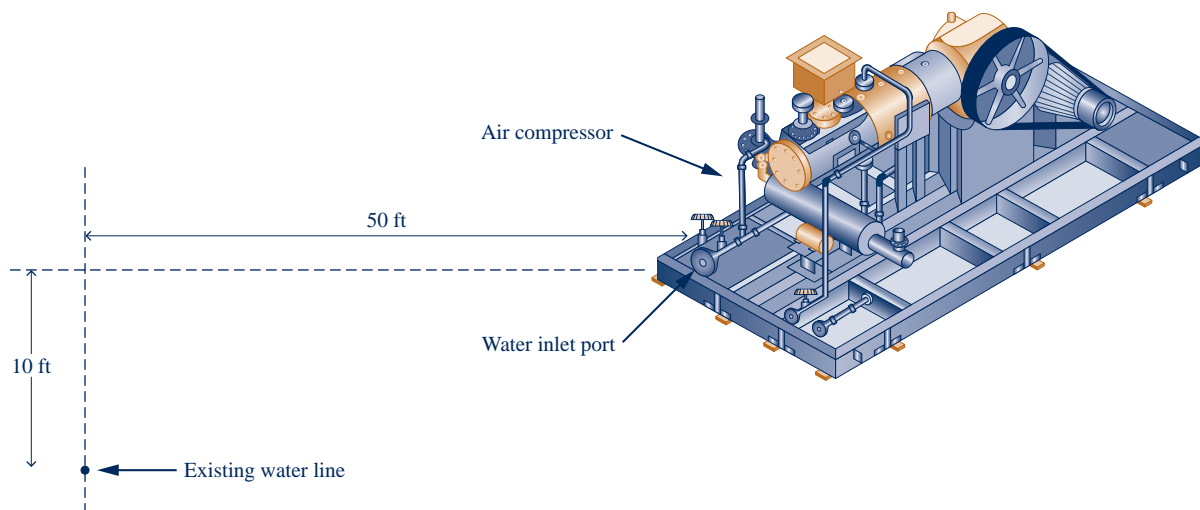

Fig. P6.11D
6.11D Figure P6.11D shows an air compressor fitted with a water jacket fed from an existing water line accessible at a location 50 feet horizontally and 10 feet below the connection